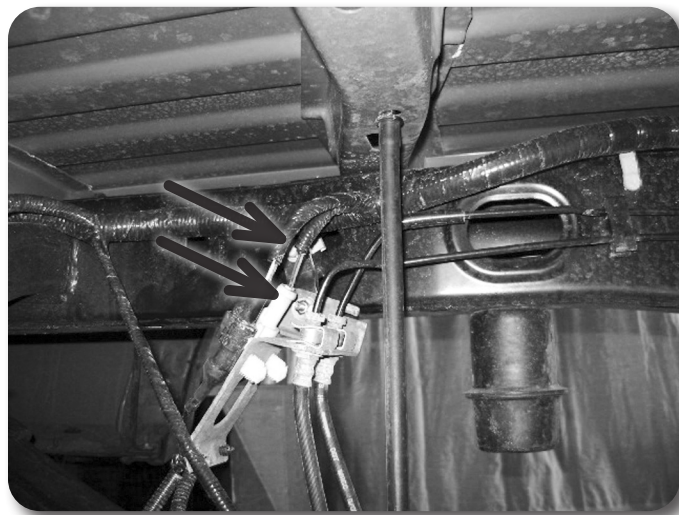

Figure 7
17. Install the provided brake line relocation bracket to the driver's side frame rail with the factory brake line bracket bolt **Figure 7**. Torque to 15 ft-lbs.